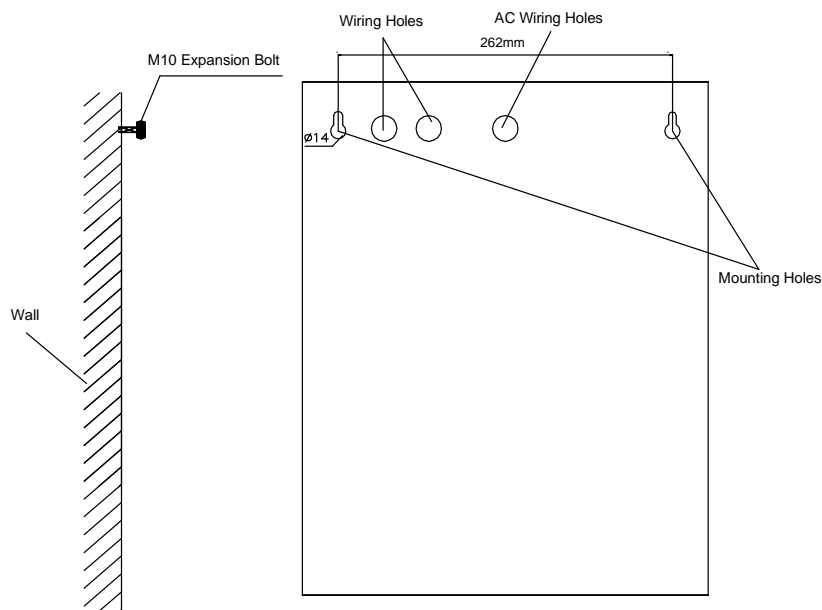

Fig. 2
- ✧ Fix the PSU on the wall using M10 expansion bolts. The installation method is shown in Fig. 2.